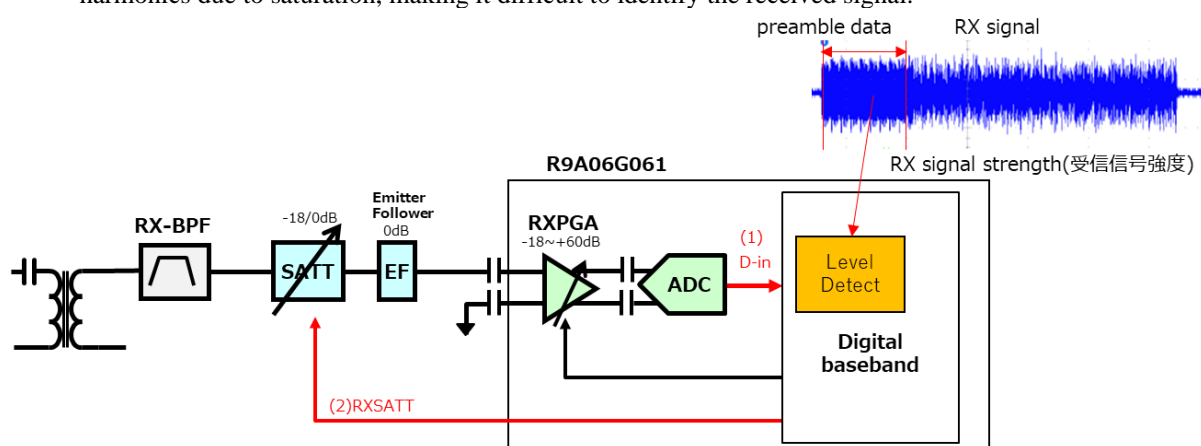
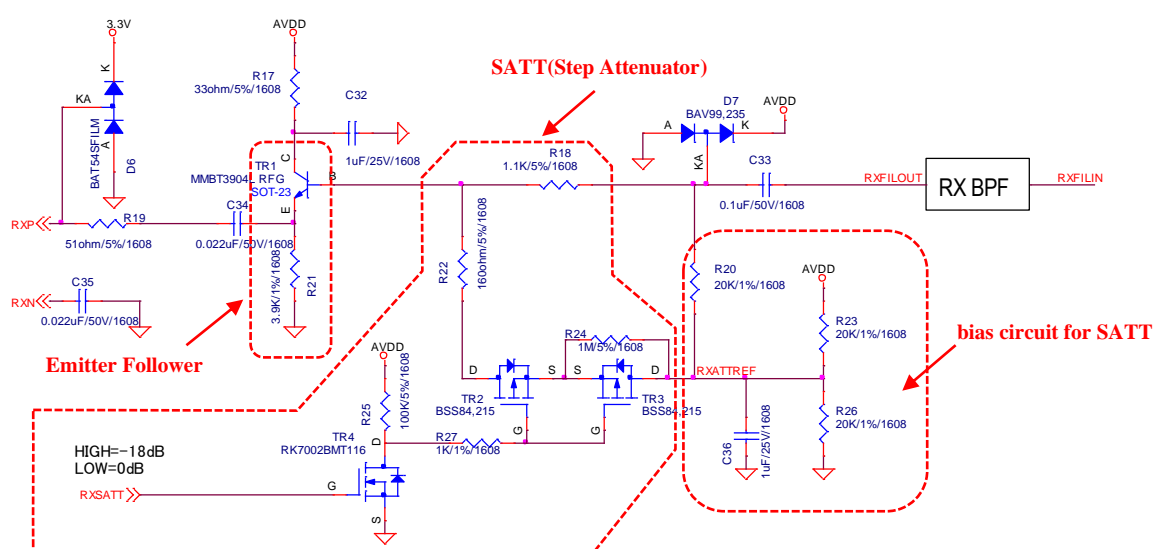

Figure 3 -3-13 Step Attenuator (SATT) control method
Figure 3-14 Example of Step Attenuator (SATT) circuit
The differential output of the ISL15102 is connected to the RX section only on the positive phase output side. Therefore, place $C_{30} = 1\mu\text{F}$ and $R_{16} = 120\Omega$ shown in Figure 3 6 (a) for the purpose of balancing the load on the negative phase output side.
- Figure 3 -3-13 shows how to control SATT.
- (1) Using the received preamble data, the level detection function of the digital baseband section determines whether the signal strength of the ADC output exceeds the signal level saturated in the receiving circuit.
- (2) When the signal level saturated in the receiving circuit is exceeded, the received signal is attenuated by switching the RXSATT signal from 0 to 1 and switching the SATT gain from 0dB to -18dB.
- Figure 3-14 shows an example of the SATT circuit used for the PLC board.